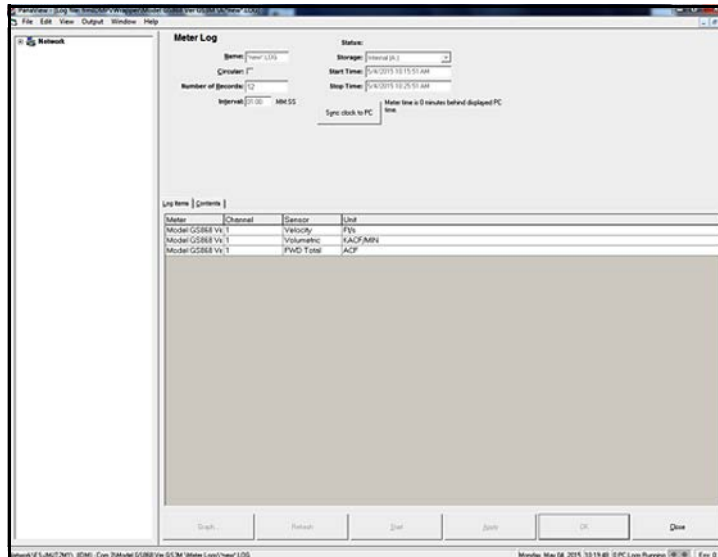

Figure 68: The Meter Log Window
3. At the “Meter Log” window shown in *Figure 68* below, the following log specifications may be entered:
- Click on the “Log Items” tab (see Figure 68 on page 50) for a list of the parameters specified for logging.
- Click on the “Contents” tab (see Figure 68 on page 50) for a list of all the data points logged to date for the parameter currently highlighted on the “Log Items” tab.